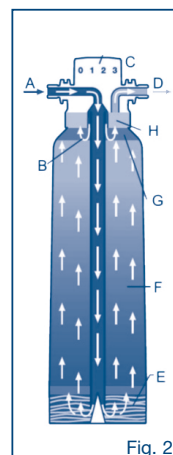

Fig. 2
Flow diagram (Fig.2). The tap water is entering the filter cartridge (A). In section (E) particles are removed by a pre filter and substances responsible for taste and odor (e.g. chlorine) are removed by activated carbon. Afterwards the decarbonisation is done by ion exchange in section (F). Finally, the water is treated by activated carbon (G) and particles are removed by a filter (H).